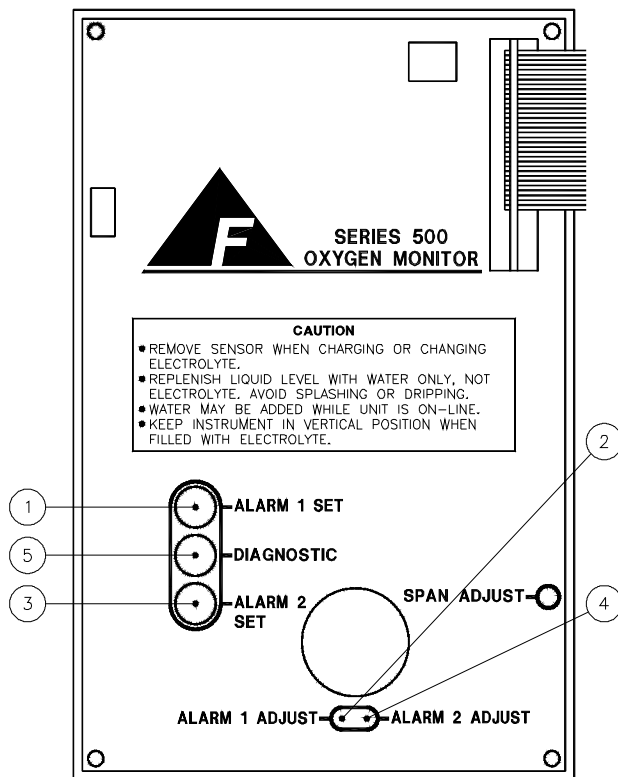

Figure 17: Alarm Setting
- Press push button (1) in Figure 17, ALARM 1 SET.
- Turn the ALARM 1 ADJUST potentiometer (2) with a screwdriver to adjust the setpoint, on the front panel display.
- Repeat the procedure for the second alarm setpoint, using ALARM 2 SET (3) and ALARM 2 ADJUST (4).
- Press push button (5), DIAGNOSTICS to return to normal operating mode.